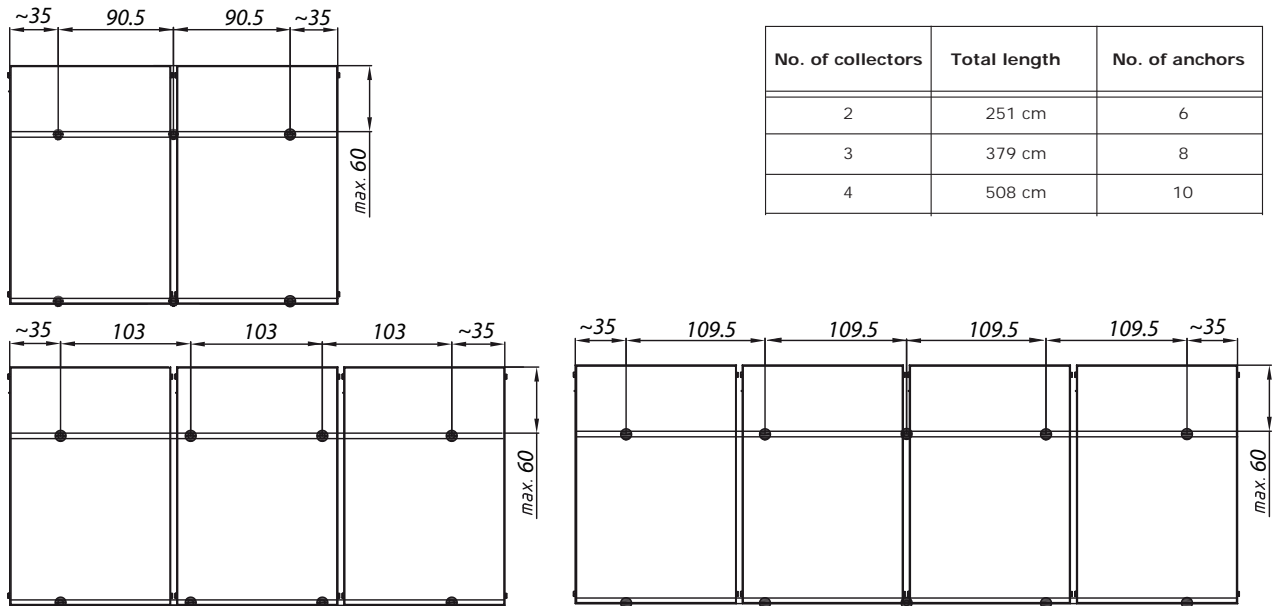
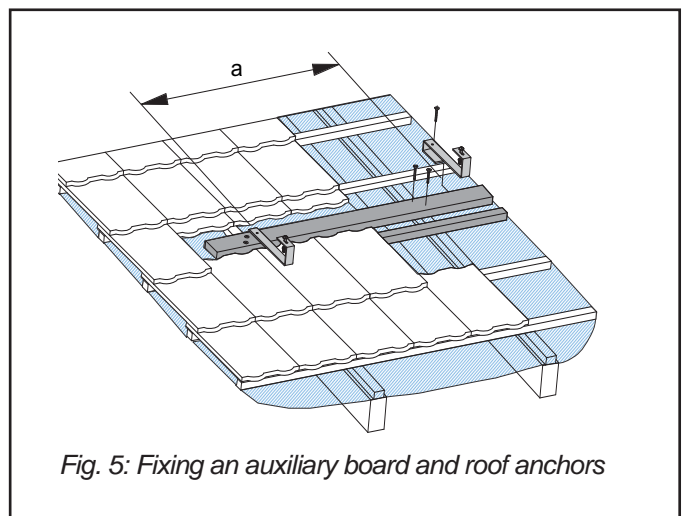

Fig. 2: Layout of roof anchors
Fig. 5: Fixing an auxiliary board and roof anchors
- Fix the auxiliary boards to battens so that the distribution of anchors resembles the positions in Fig. 2. At the same time screw the boards so high that the roof anchor does not hinder placing the roof tile with the
- Hang the roof anchors onto the auxiliary board respecting their distribution shown in Fig. 2.
- Remove roofing in places where anchors shall be fixed (Fig. 5). The distance "a" between anchors is defined in Fig. 2.
- Depending on the number of collectors, measure and calculate the positions for fixing roof anchors (Fig. 2). Such places shall be selected for mounting where anchors can be fixed sufficiently into the roof frame (rafter or similar).